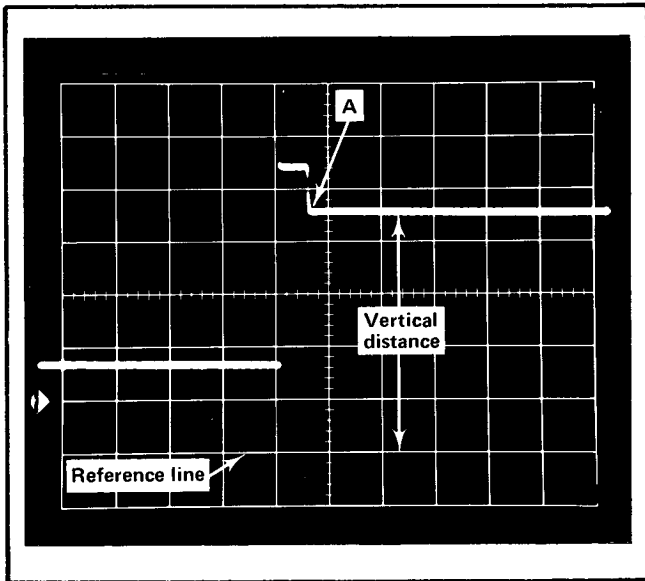

Fig. 2-6. Measuring instantaneous DC voltage with respect to a reference voltage.
8. Measure the distance in divisions between the reference line and the point on the waveform at which the DC level is to be measured. For example, in Fig. 2-6 the measurement is made between the reference line and point A.